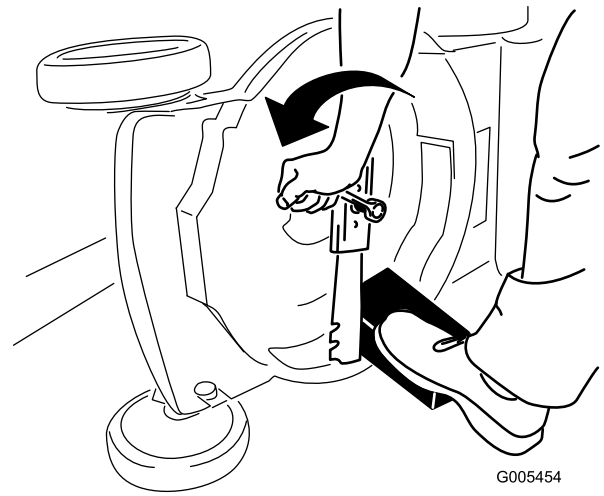

Figure 30
3. Use a block of wood to hold the blade steady (Figure 30).